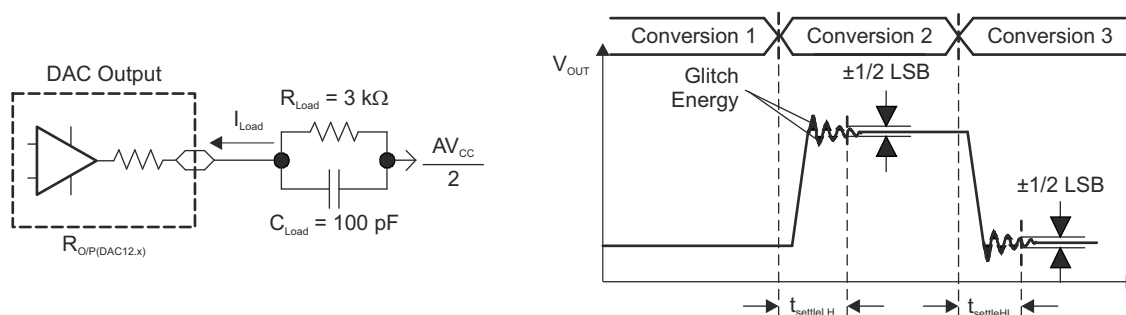
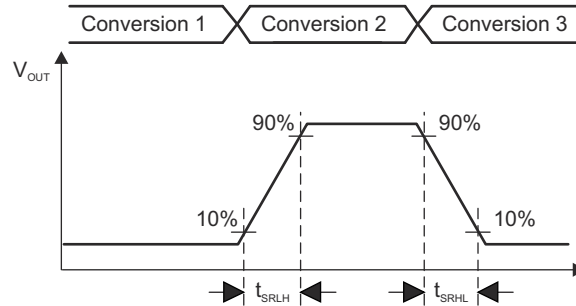

图 8-19. Settling Time and Glitch Energy Testing
图 8-20. Slew Rate Testing
V_{REF} = V_{CC}, DAC12IR = 1 (see Figure 8-19 and Figure 8-20), over recommended ranges of supply voltage and operating free-air temperature (unless otherwise noted)
(1) R_{Load} and C_{Load} connected to AV_{SS} (not AV_{CC}/2) in Figure 8-19.
(2) Slew rate applies to output voltage steps ≥ 200 mV.